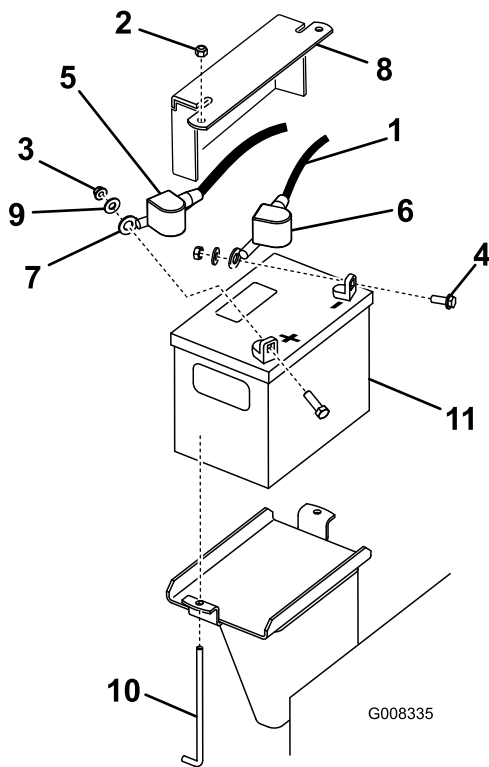

Figure 40
3. Lift the black rubber cover on the negative cable. Disconnect the negative battery cable from the negative (-) battery terminal (Figure 40).
4. Slide the red terminal boot off the positive (red) battery terminal. Then remove the positive (red) battery cable (Figure 40).
5. Remove the hold down plate, j-bolts, and locknuts securing the battery (Figure 40) and remove the battery.